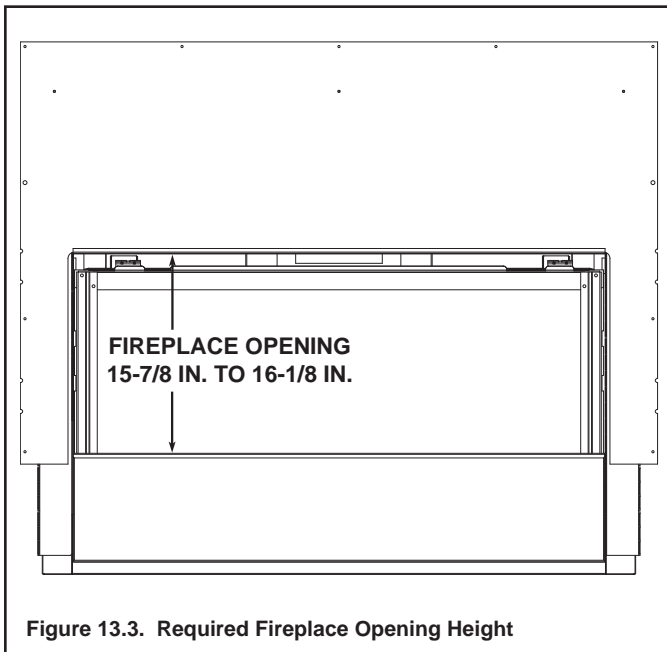

Figure 13.3. Required Fireplace Opening Height
Verify that the lower cover panel is installed correctly, and that the fireplace opening height is between 15-7/8 in. and 16-1/8 in. See Figure 13.3.
**Note:** The lower cover panel must be pushed all the way down. The outer finishing flanges should line up. The fireplace opening must be between 15-7/8 in. and 16-1/8 in. for the decorative fronts to fit correctly. See Figure 13.3.